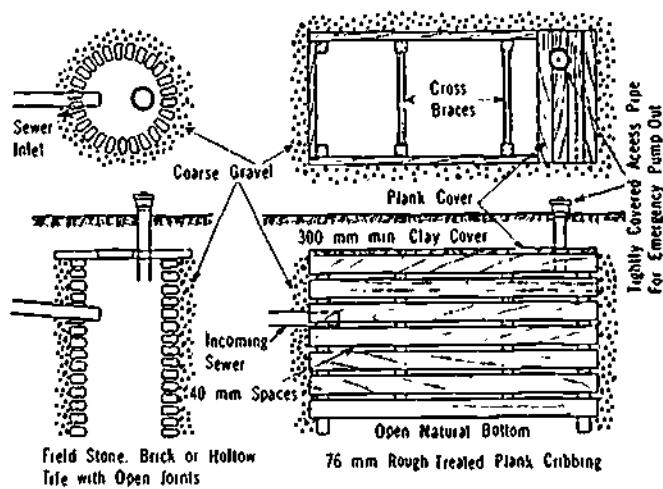

Figure 24-17. Two Types of Leaching Cesspools
a) A leaching cesspool is a means of disposing of sewage effluent rather than of purifying it. Its location therefore must be chosen with great care so that ground waters will not be contaminated, making sure that the surrounding soil is kept constantly saturated and the aerobic organisms that purify the effluent are excluded from the cesspool itself. (See Figure 24-17.)